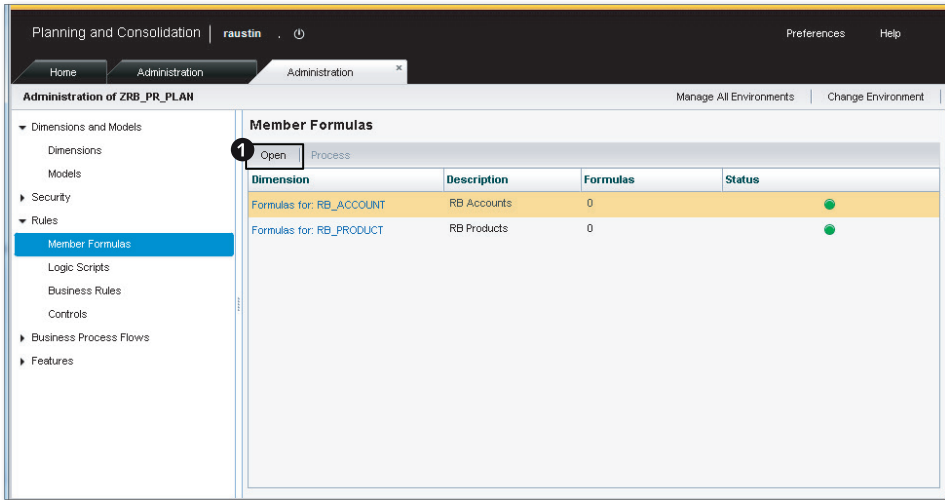
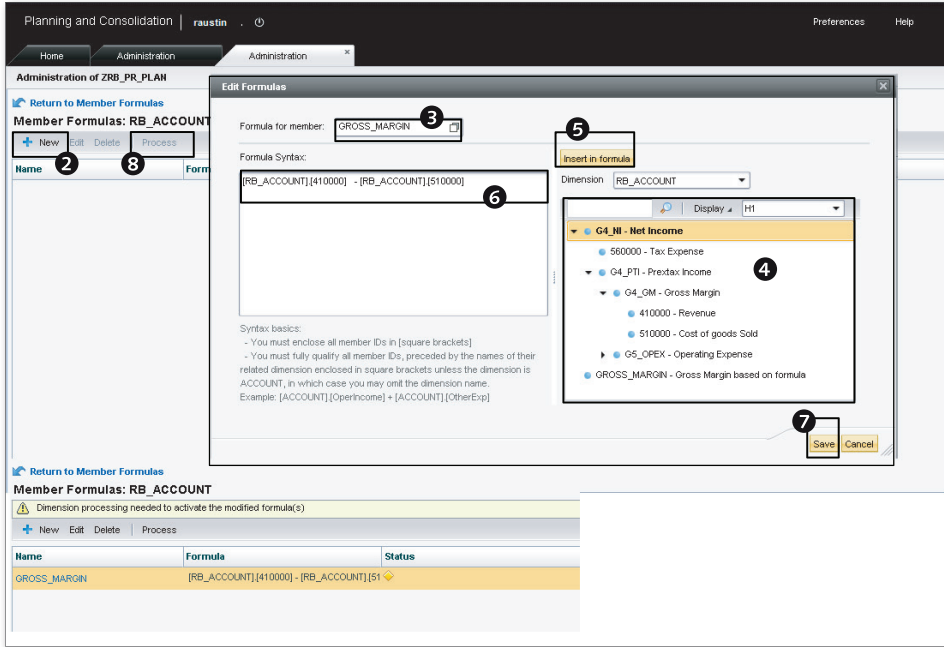

Figure 6.1 Creating a Formula for the Gross Margin Account—Part A
Figure 6.2 Creating a Formula for the Gross Margin Account—Part B
4. You are now ready to define a formula for the new member GROSS_MARGIN that you created in the previous step. In the ADMINISTRATION workspace, under the RULES domain, select the MEMBER FORMULAS view. You will see the list of dimensions that are enabled for using formulas. Highlight the RB_ACCOUNT dimension, and click on the OPEN menu option (Figure 6.1, ❶). This will open the interface to create and maintain formulas for the members in the RB_ACCOUNT dimension. You will now create a formula for the GROSS_MARGIN dimension member. Click on NEW to open the EDIT FORMULAS dialog box (Figure 6.2, ❷).
5. Select the dimension member GROSS_MARGIN from the dropdown box for creating the formula (Figure 6.2, ③). Highlight the revenue account 410000 from the list of dimensions members displayed, and click on INSERT IN FORMULA (Figure 6.2, ④ and ⑤). The member is transferred to the formula area (Figure 6.2, ⑥). Then manually enter the "-" sign in the formula area (Figure 6.2, ⑥). Now select the COGS account 510000 from the list of members displayed, and click on INSERT IN FORMULA (Figure 6.2, ④ and ⑤). The member is added to the formula area (Figure 6.2, ⑥). (You can also manually enter the formula in the formula area.) Save the changes (Figure 6.2, ⑦).
6. To use the new formula you created, click on PROCESS (Figure 6.2, ⑧). You have defined a formula that will dynamically calculate the value for the GROSS_MARGIN dimension member in your reports.